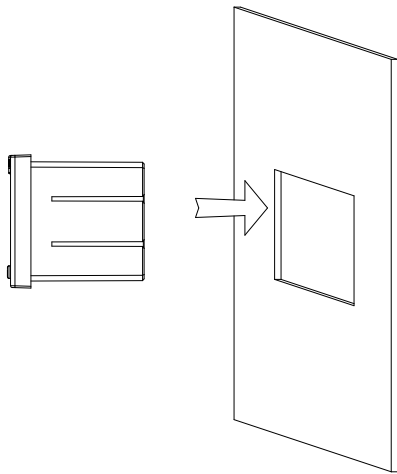

Figure 5
3) The instrument is mounted from the Front to the mounting hole, as shown in figure 5